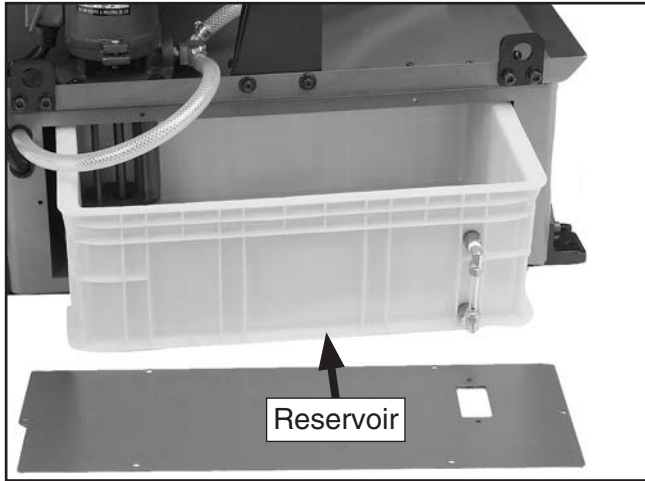

Figure 82. Location of reservoir.
4. Remove reservoir (see **Figure 82**) from base and empty it. Dispose of coolant per federal, state, and manufacturer requirements.